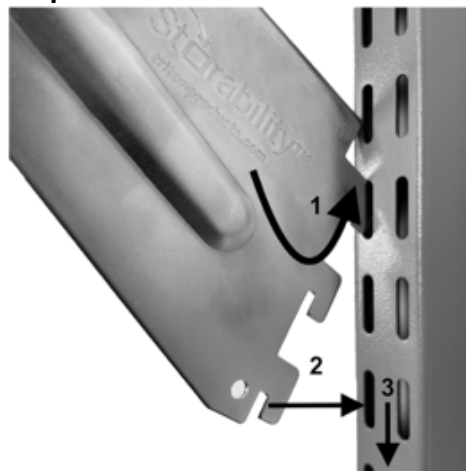
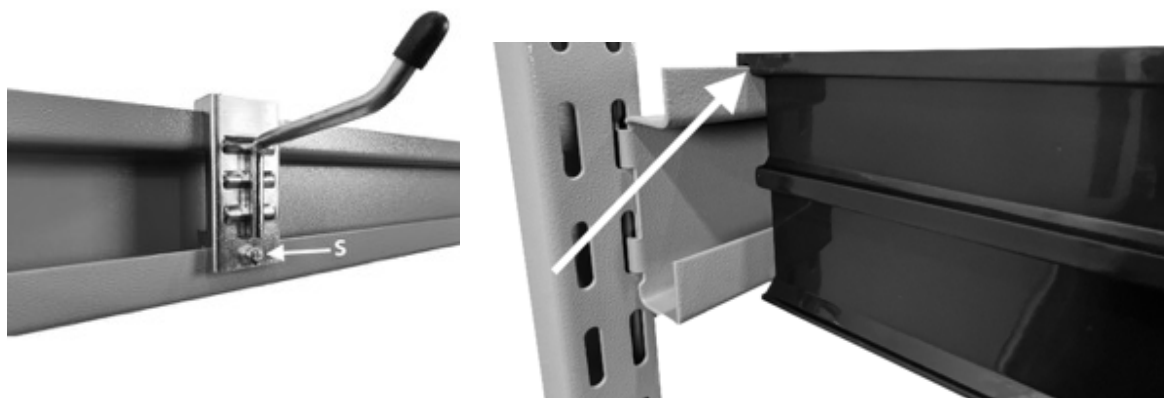

**Fig 5.**
**Fig 6.**
**Step 13.** Attach wire shelf brackets (**I**) on the ends of the wire shelf (**H**) as shown in **Fig 5.** and **Fig 6.** below.